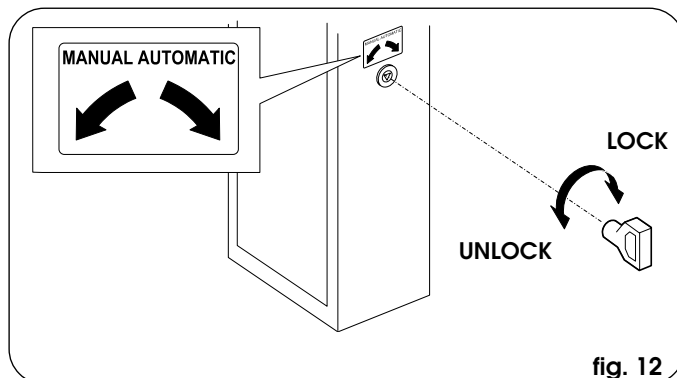

fig. 12
- Fit the standard triangular key (Fig.12) in the lock and turn it **anti-clockwise** through 1 turn.